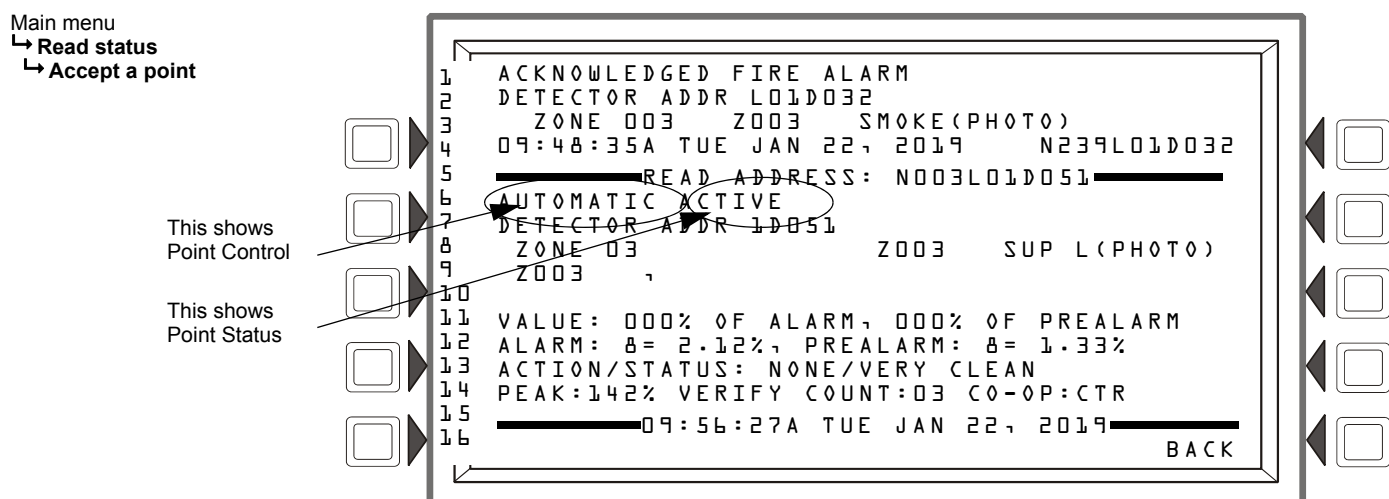

Figure 4.13 Read Status Details - Smoke Detector Point Installed on an NFS-320 or NFS2-640
After you have set all parameters, press the ACCEPT soft key to accept or <ESC> to cancel the request. Once the NCA-2 reads the point, it will display the Read Status screen (see Figure 4.13).
Figure 4.13 shows a sample status screen for a smoke detector point. Following is an explanation of the screen elements:
- Line 14 shows PEAKS, which is the highest value read by the device. Also shown is VERIFY COUNT, which displays how many times the panel detected an alarm. This verification aids in differentiating false alarms from actual ones by showing repeated alarm events that have come in on this device. The last element on this line is Detector Cooperation (DET CO-OP: CTR in Figure 4.13). Detector cooperation is when multiple detectors exist in close proximity and are programmed to operate together in order to make smoke detection more accurate. The text after the colon can be an abbreviation denoting detectors used together to detect smoke. Refer to Table 4.3 for detector cooperation abbreviation descriptions.